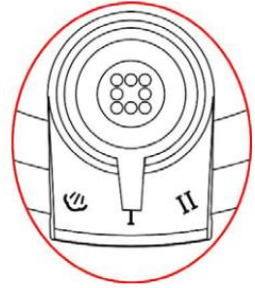

Fig.7
3. Equipping to adjust pressure-limiting valve, regulating working pressure very easy. (Fig. 7), the position of low-pressure step).